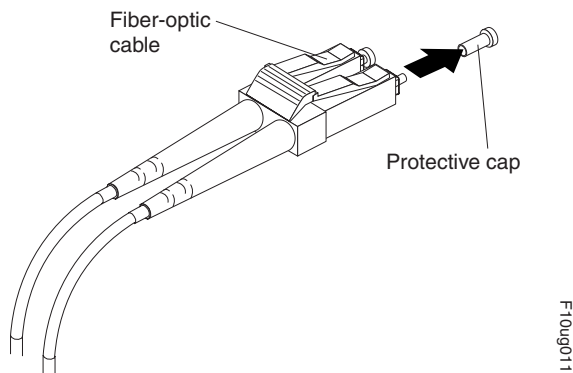

Figure 32. Removing fiber-optic cable protective caps
2. If necessary, remove the protective cap from the SFP module, as shown in Figure 32. Save the protective cap for future use.
3. Remove the two protective caps from one end of the LC-LC cable, as shown in Figure 32. Save the protective caps for future use.